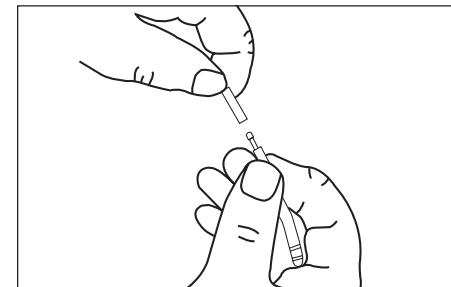

Figure 4. Insertion of Band Tubing End Plug
8. Insert the end plug into the tubing end until the stainless steel tubing connector disappears into the open end of the band fill tube – this will facilitate pulling the tube around the stomach (**Figure 4**). The tubing can be slippery. Using 4x4 gauze sponges will help grasp the tubing.